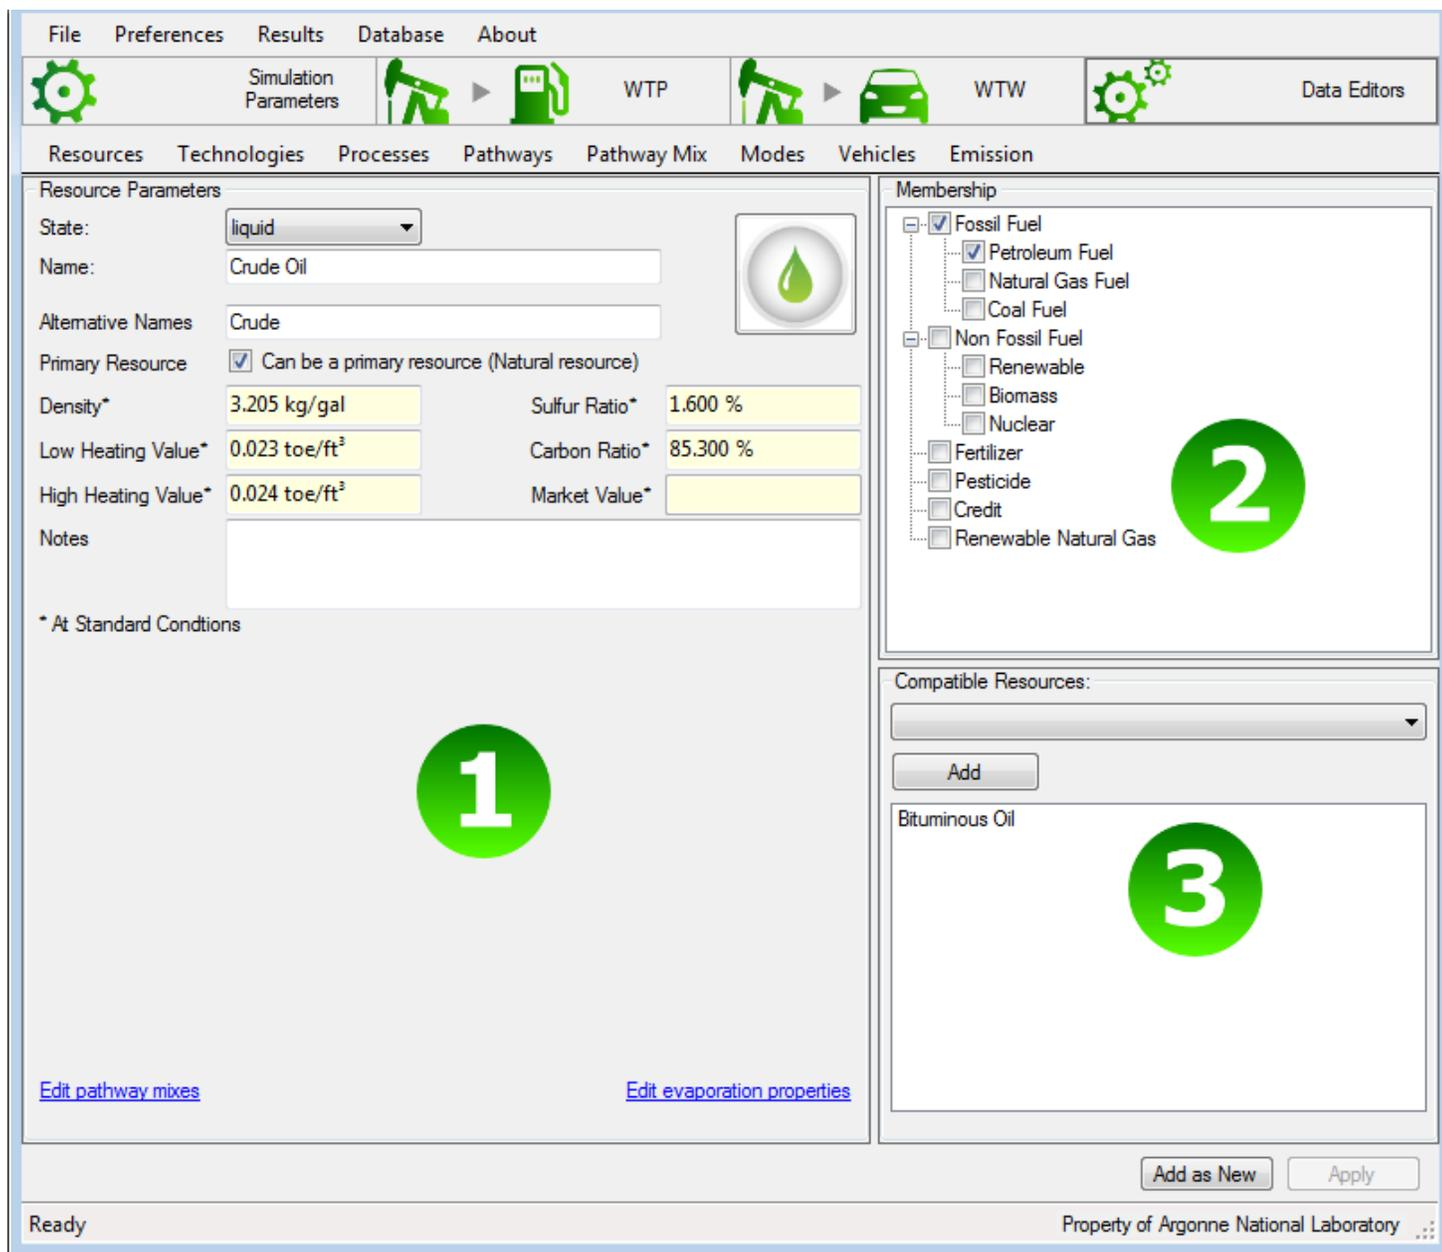

Figure 26: Crude Oil in the Resource Editor
Figure 26 shows the resource editor loaded with the Crude Oil resource. The editor is made up of three zones. Zone 1 represents the properties of the resources such as the physical state, name, heating values, density, and a picture to associate with the resource. Zone 2 represents the group memberships for this resource; this control only appears if we are editing a primary resource. The last zone, marked number 3, shows the list of resources that can be blended with the edited resource.
**Group membership:** When the primary resource box is checked, the right side of the control shows the memberships (Zone 2 in Figure 26). Memberships allow you to categorize the resource into different groups. Those groups will be used to aggregate results together in the Well-to-Pump main pane as shown in Figure 28 or in the Well-to-Wheels main pane.